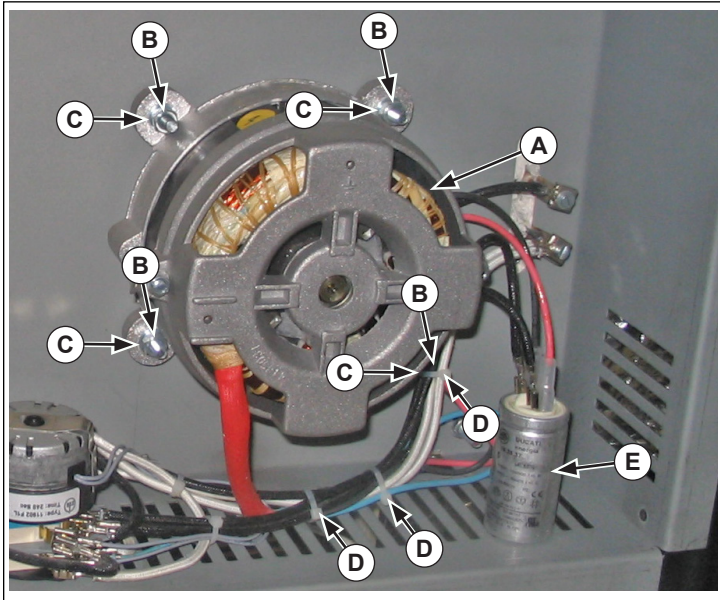

Figure 6. Motor, Hardware, Wires, Ties, Hardware and Capacitor
11. Loosen the set screw (B) and remove the fan (C).
13. Carefully remove the ties (D) securing the fan wires. See Figure 6.